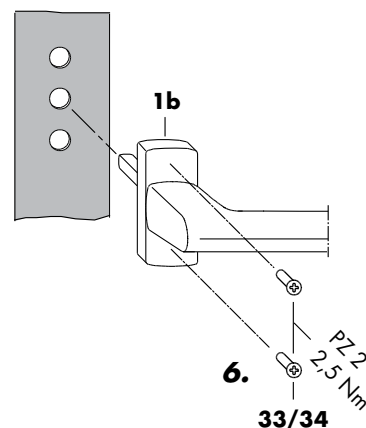

Figure 4
6. Screw on the window handle (pos. **1b**) with countersunk screws M5 x 35 (pos. **33/34**) (PZ 2, torque 2.5 ± 0.25 Nm) (figure 4).